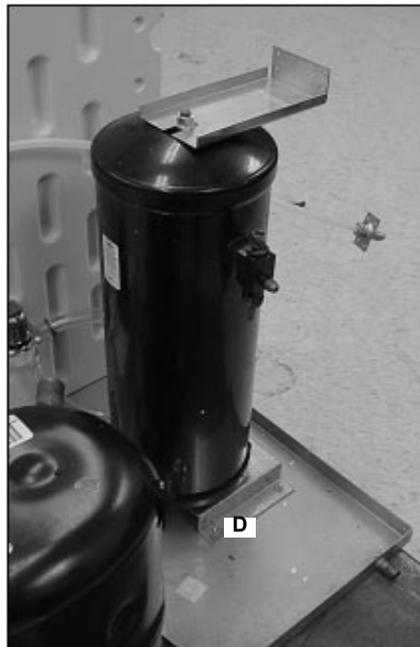

Figure 27.
28. Remove the receiver and top bracket from the bottom bracket (D) by loosening the nut underneath the bracket.
Remove the bottom bracket (D) from the base chassis and the top bracket from the receiver (Figure 27).